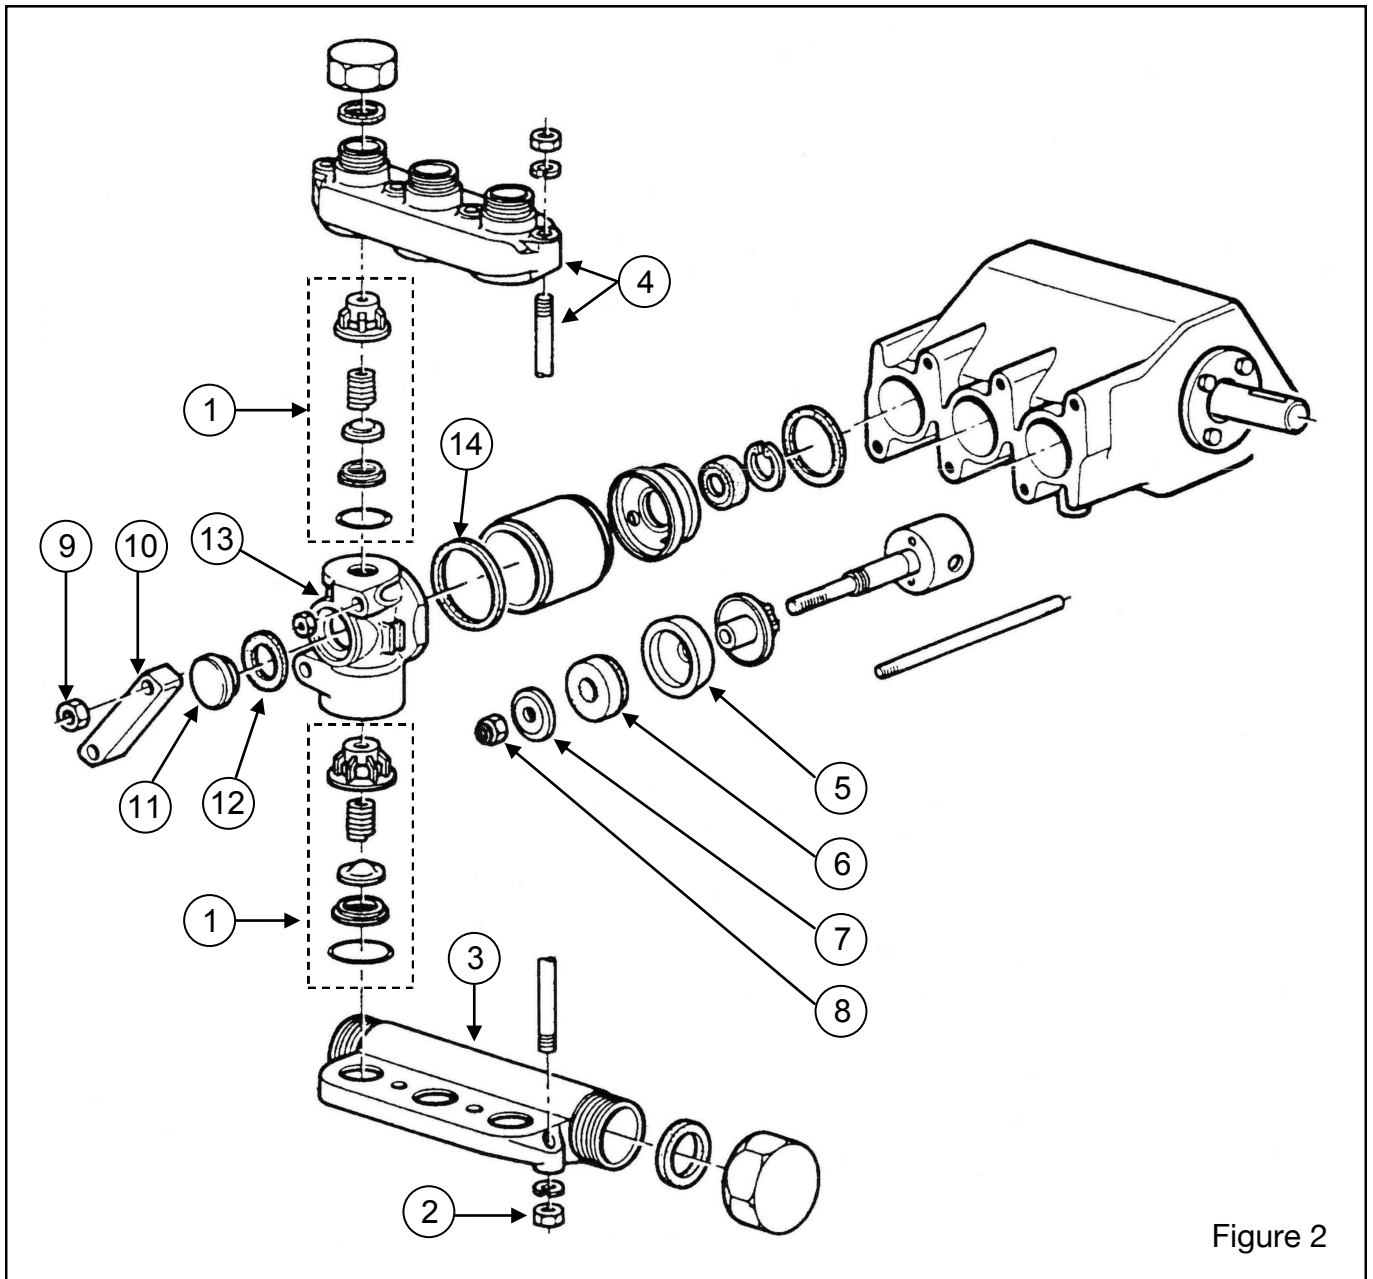

Figure 2
- To check the state of the 6 sets of valve (Rep.1 - figure 2).
- To unscrew 4 nuts (2).
- To remove the aspiration's collector (3).
- To remove the pression's collector (4) and these 4 tirans.
- To dismount the 6 sets of valve (1), to clean with the gasoline, and to oil slightly before the reassembly.